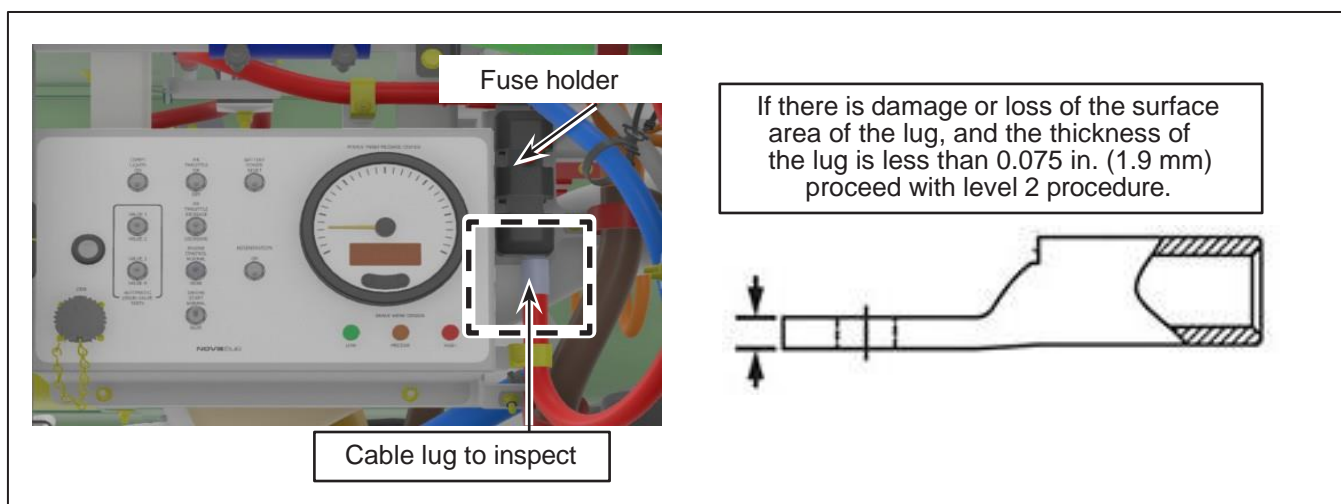

Figure 7 - Cable Lug to Inspect
- 1.24. Inspect the lug of the cable for the lower terminal of the fuse holder. If there is damage or loss of the surface area of the lug, and the thickness of the lug is less than 0.075 in. (1.9 mm), proceed with level 2 procedure. See Figure 7.